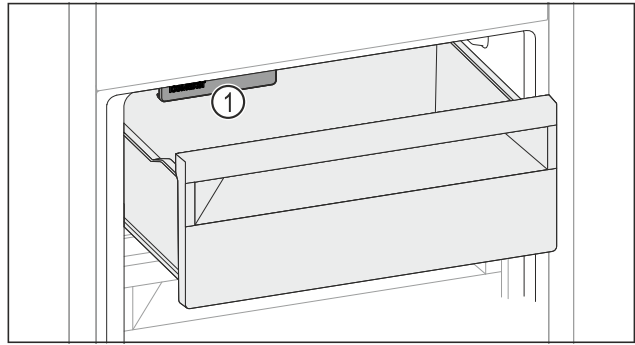

Fig. 167
- ▶ Watch out for the IceMaker Fig. 167 (1).